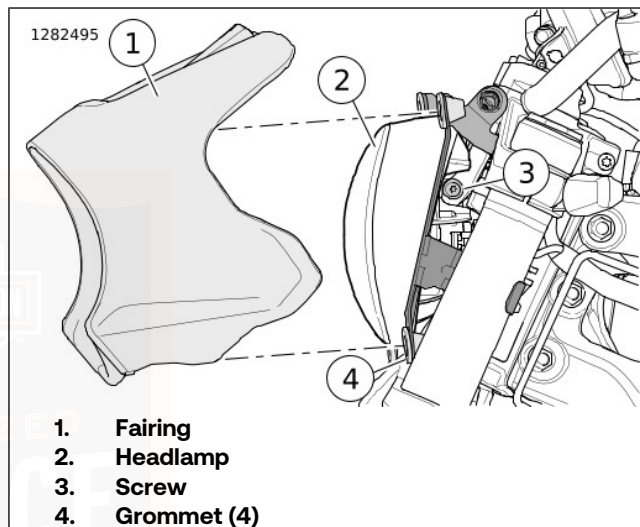

Figure 65. Headlamp Adjustment
1. See Figure 65. Remove fairing (1).
2. Loosen vertical adjustment screw (3).
4. Tighten vertical adjustment screw (3)